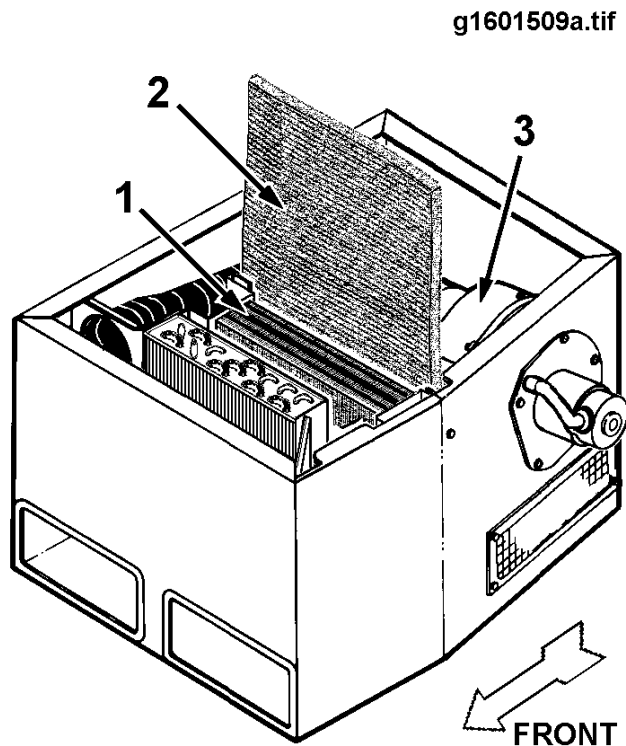

Figure 11 Air Filter
2. Lift the old element from the unit, noting the orientation of the filter construction (Figure 11).